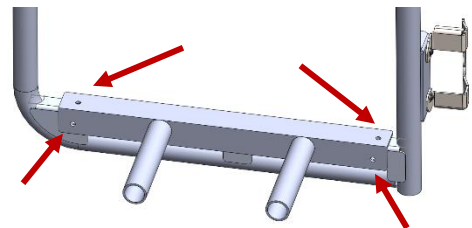

Figure 18: box post assembly
29. If mounting a box is desired, grab your included box post assembly (210618.2) and bolt this part to the bottom flange of the base unit using the (70021,70020,70118) hardware . shown in figure 18.